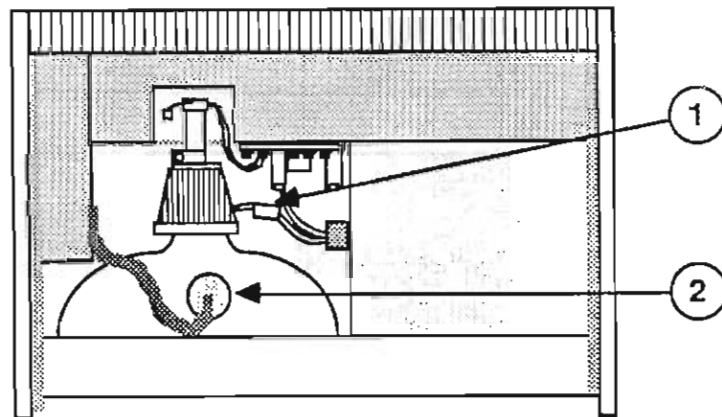

FIGURE 9
2. Connect the yoke connector (green and yellow wire) to the male connector attached to the transformer. (See Figure 9, #1.)
6. Clip the anode cap (Figure 9, #2) back into the CRT.